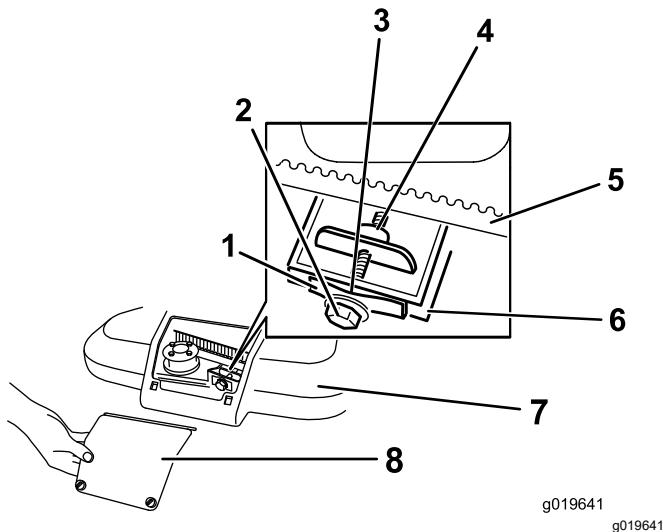

Figure 32
1. Loosen the 2 screws on the belt-cover-access panel and remove the panel (Figure 32).
Note: If there is a visible gap between the gauge and the spring, tighten the adjusting bolt and the nut until the feeler gauge barely slides freely in and out of the gap (Figure 32).